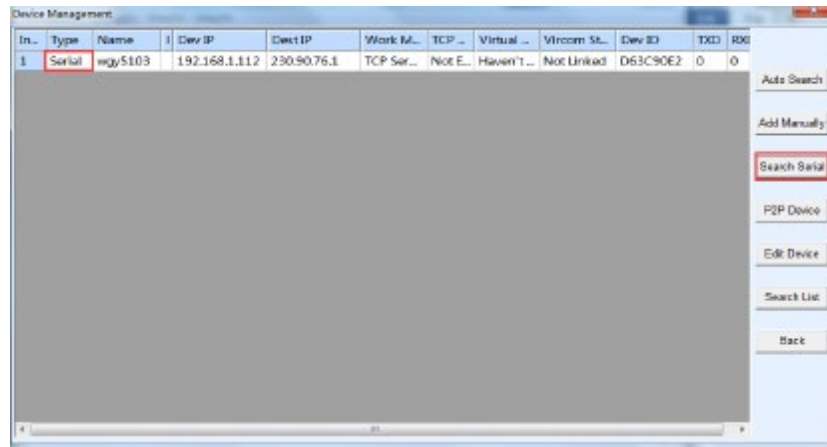

Figure 8 Serial Port Search Device
b) User doesn't have photoelectric converter, connect RS232 port of 1812 to computer serial port or USB to RS232 port. As shown in figure 8, click "Search Serial", select the serial number in the pop-up dialog box, no need to select baud rate, and click ok. ZLVircom searches for 1812 through a serial port, the device will be listed in the list after being searched out, the type is "Serial". Then click "Edit Device" to enter the configuration of the device parameters.